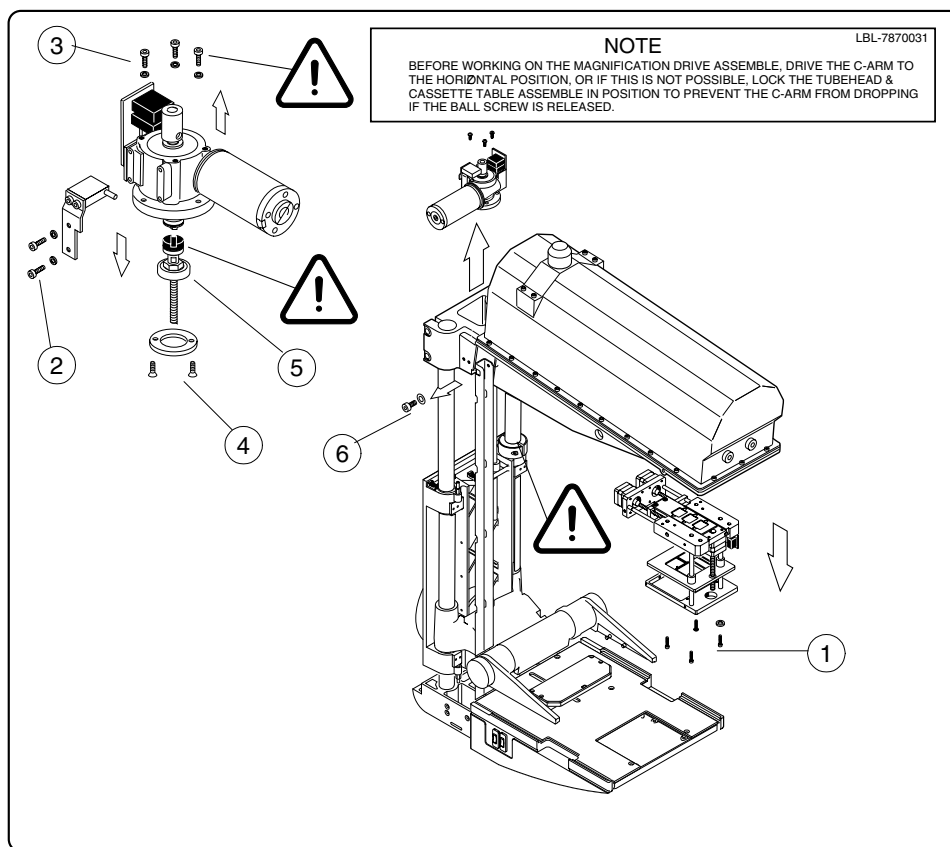

Figure H.17
- n) Remove the collimator from the tubehead by opening the fixing screws (4 pcs) (Fig. H.17, 1). Do not touch the radiation window.
- o) Disconnect the mag pulse hall cable from the MAG/LOAD motor (Fig. H.17, 2). If you are using the locking device, make sure that it is correctly positioned. Remove the MAG/LOAD motor (Fig. H.17, 3). When unscrewing the bearing holding bracket screws (Fig. H.17, 4), make sure that the Allen key used is in good condition since the screws are locked with Loctite 222 glue. If needed, the screws can be warmed up with the hot-air blower.
- p) Pull the ball screw assembly (Fig. H.17, 5) from the tubehead.
- q) Remove the cable guide screw (Fig. H.17, 6).